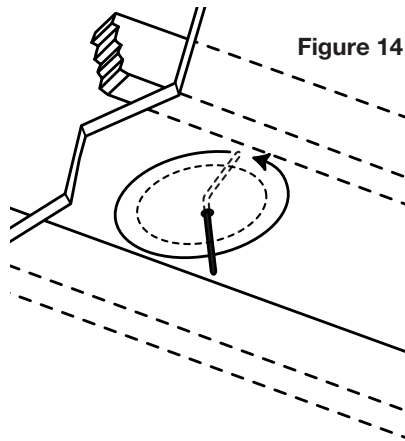

Figure 14
3. Cut a foot-long piece of coat hanger. Bend the wire (creating a right angle) leaving 4-3/4" this allows for the extra width of the mounting dogs). Poke the "L-shaped" wire into the pilot hole and turn it in a complete circle and move it into the ceiling cavity to make sure you have approximately 6" of depth. If the wires movement is obstructed by anything, fill the hole(s) with spackle and try another location. **(See Figure 14)**